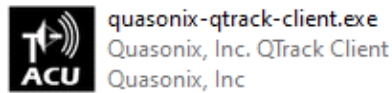

Figure 9: QTrack ACU Desktop Icon
2. Click on the QTrack ACU desktop icon, as shown in Figure 9.